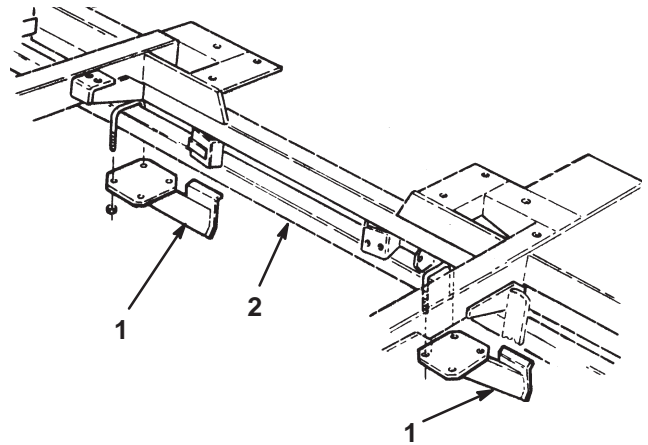

Figure 8
1. Locate mounting position of roller bumpers (Fig. 8) on each side of frame tube in front of #1 cutting unit.
2. Loosely secure a roller bumper to each side of frame tube, as shown in Figure 8, with U-bolts and locknuts.